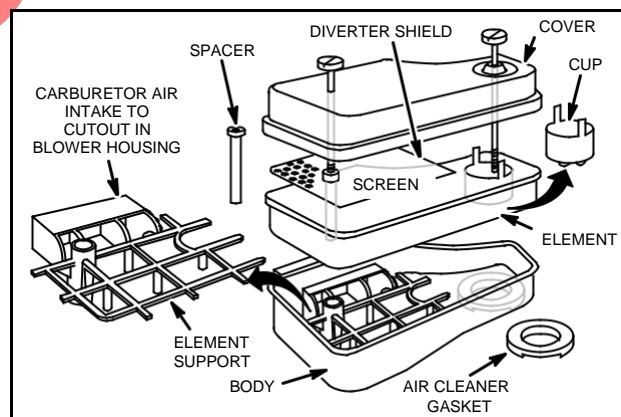

Fig. 121 - DUCTED OIL-FOAM AIR CLEANER,
1. Remove two (2) screws and lift off complete air cleaner.
5. Insert element support into body (when used, Fig. 121) and then place Oil-Foam element into body. Make sure that lip of Oil-Foam element extends over edge of body all the way around to assure a protective seal.
7. Place cover on air cleaner assembly with two (2) screws, Fig. 121.
8. Install air cleaner assembly on carburetor, Fig. 121.